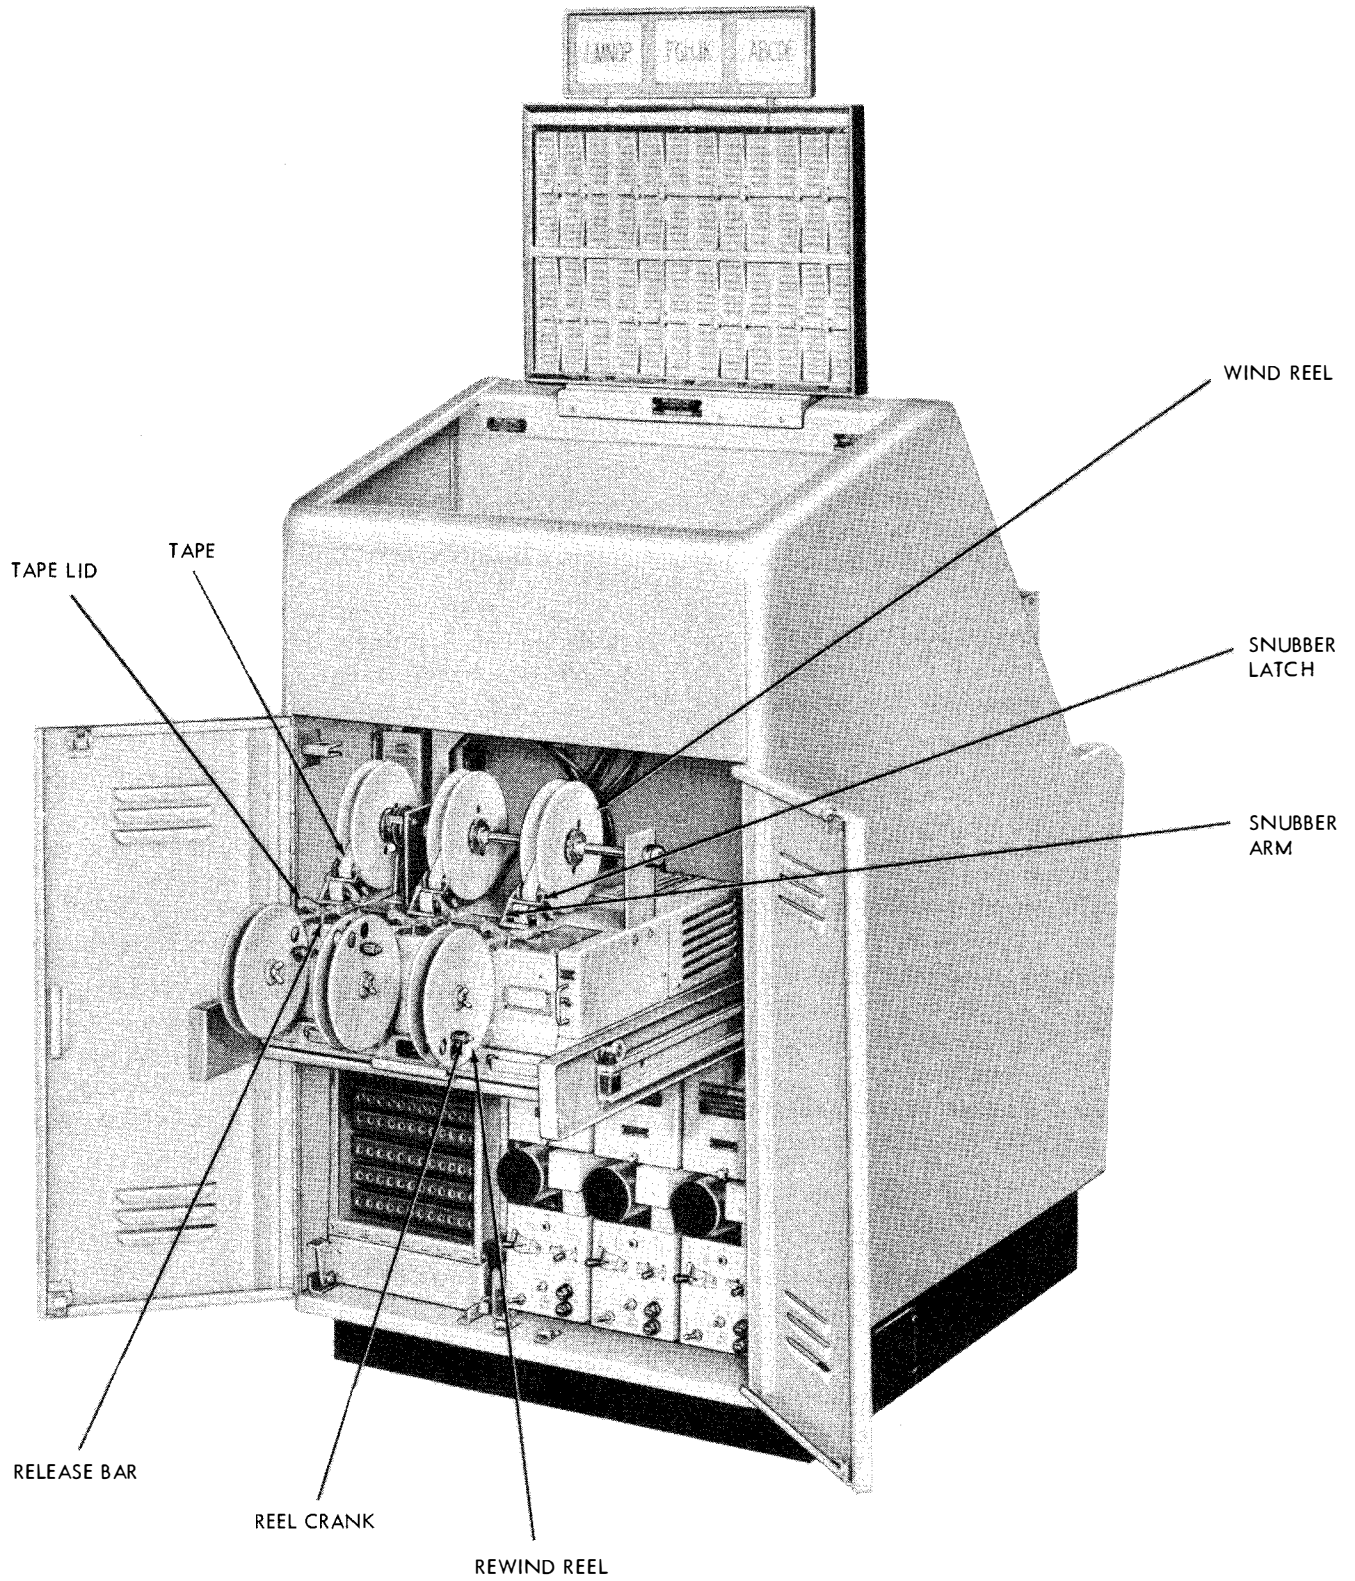

Figure 4-8. Transmitter Group, Rear View, Changing the Number Tape
(3) To restore the circuits to normal, reverse the above procedures.
a. INSTALLING NUMBER TAPES. (See figure 4-8.)
(1) Wind the number tape clockwise on the rewind reel starting with the high-numbered end and with the typing on the inside of the reel.
(2) Position the snubber assembly to the rear and pass the beginning end of the tape (printed side now facing upwards) over the slack arm and the stationary snubbers.
(3) Place the end of the tape in the wind reel slot. Rotate the reel two revolutions by hand. Return the snubber assembly to the operating position and latch in place.
(4) Press the release bar down and to the rear, position the tape for the proper number, latch the tape lid down, and restore the release bar.
(5) To rewind the tape, raise the tape lid, position the snubbers to the rear, and carefully and steadily rewind the tape by means of the crank on the rewind reel.